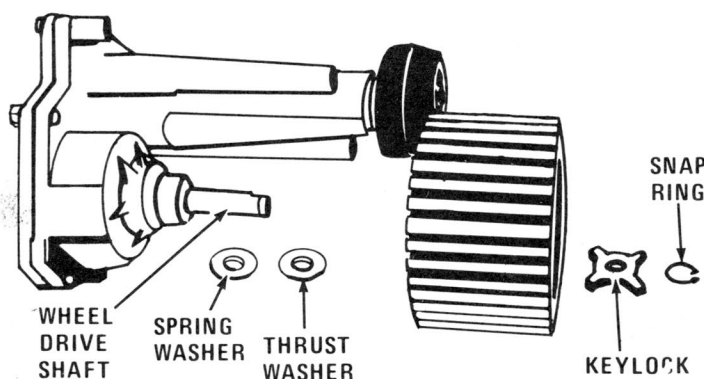

Fig. 8
2. FORWARD (LH) SECTION (LONG)
- a. Remove Wheel, Fig. 8, and de-burr end of wheel drive shaft with a file.